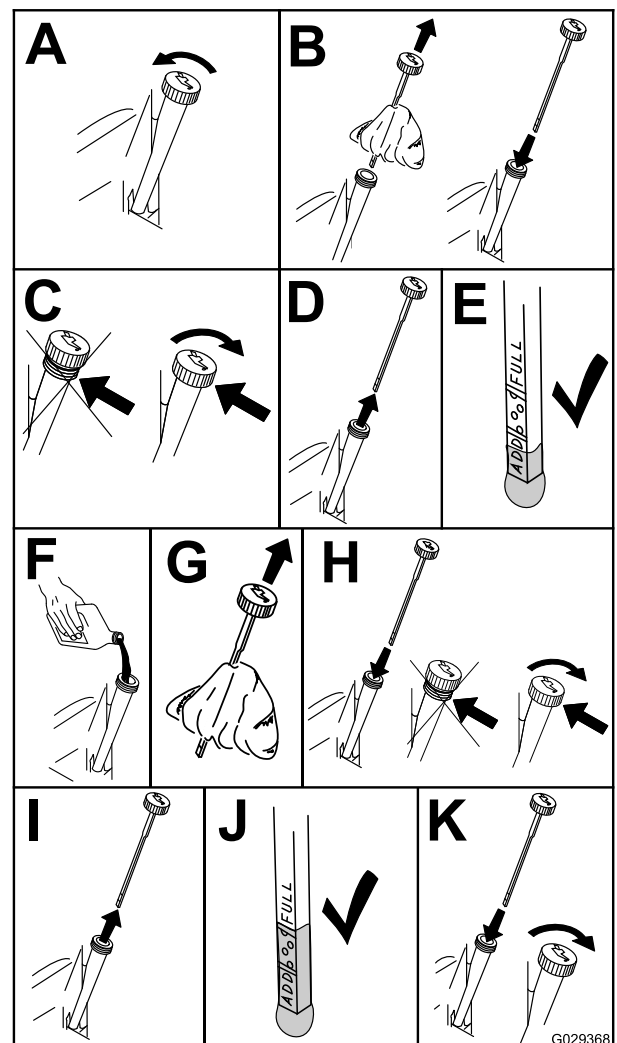

Figure 41
3. To keep dirt, grass clippings, etc., out of the engine, clean the area around the oil-fill cap and dipstick before removing it (Figure 41).